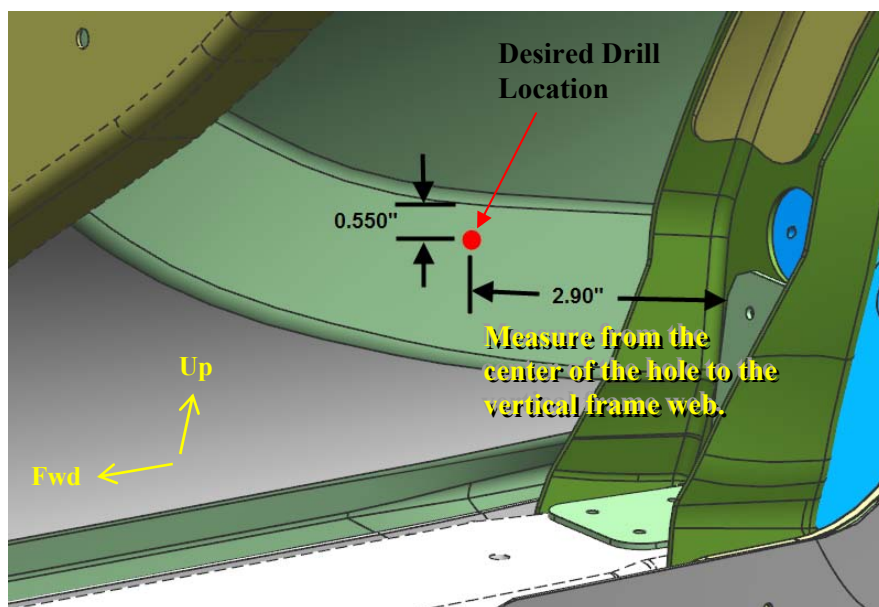

Figure 5-6: Measuring Boot Cowl for Screw Location, Copilot Side
2. Remove insulating foam from the local work area (refer to **Figure 5-6**).
4. Measure 2.90" (± 0.050 ") from the front of the vertical frame and mark this location (refer to **Figure 5-6**).
5. Measure down 0.550" (± 0.030 ") from the bend on the boot cowl, intersecting this location with your previous mark, to find the drill location for the hole (refer to **Figure 5-6**).